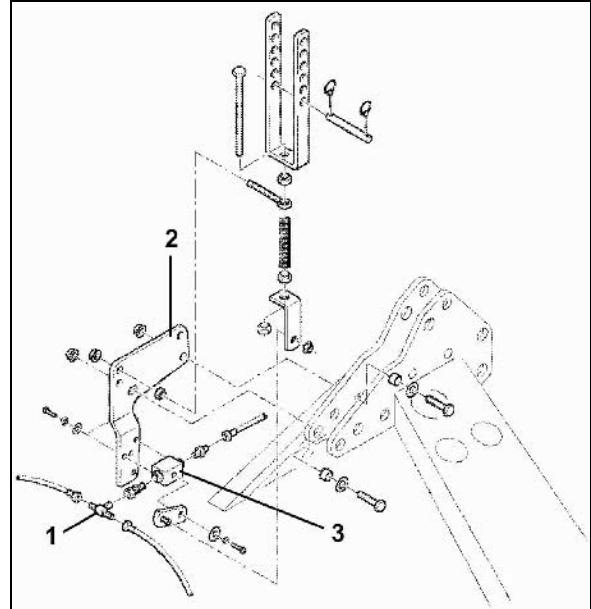

Fig. 48
3. As soon as the hydraulic system has been depressurised, disconnect the hydraulic hose on the T-connector (Fig. 48/1).
4. Bolt the valve retainer (Fig. 48/2) on to the upper link point of the soil tillage implement.
5. Connect the hydraulic hoses with the valve (Fig. 48/3) and route the hydraulic hose to the tractor and connect it with a single acting control spool valve.